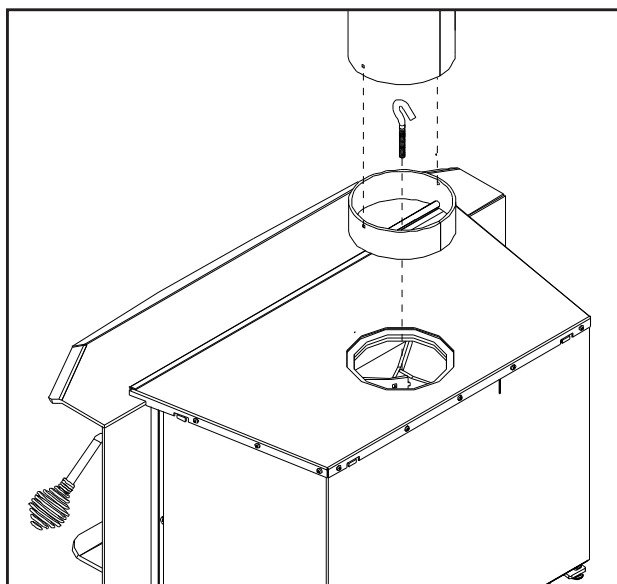
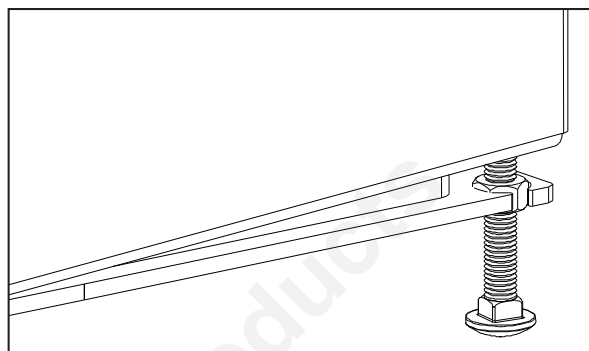

Figure 33: Attaching removable flue.
Figure 34: Leveling leg.
- f) Using the hook/bolt, grab the flue collar by the rod through the center and pull it into place (see Figure 33).
- h) Re-install ceramic baffles and the first two (2) front secondary air tube (see CERAMIC BAFFLE INSTALLATION).
**3.** There are two (2) leveling legs (shown in Figure 34), one on each side, at the back of the unit. Adjust the legs using a  $\frac{9}{16}$ " wrench to ensure the unit is stable.